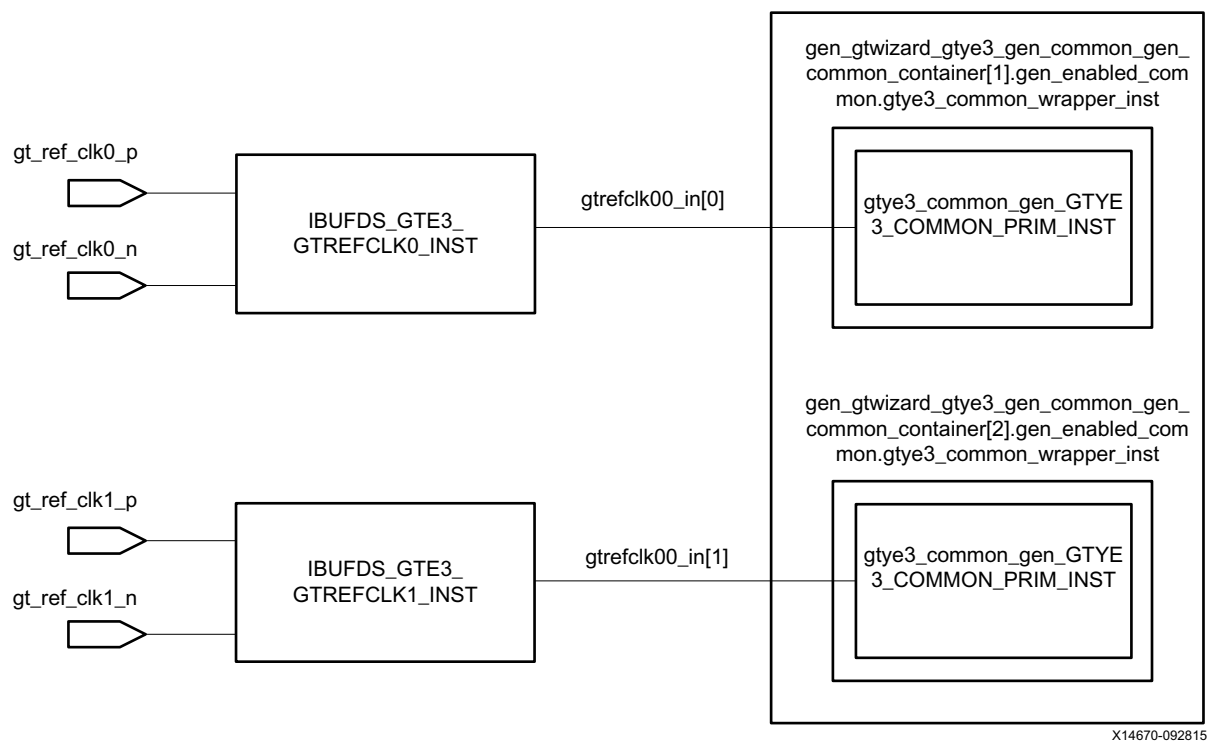

Figure 5-2: 25 Gb/s Reference Clock
- two pairs of `gt_ref_clk` are needed to drive the two IBUFDS, as shown in Figure 5-2.